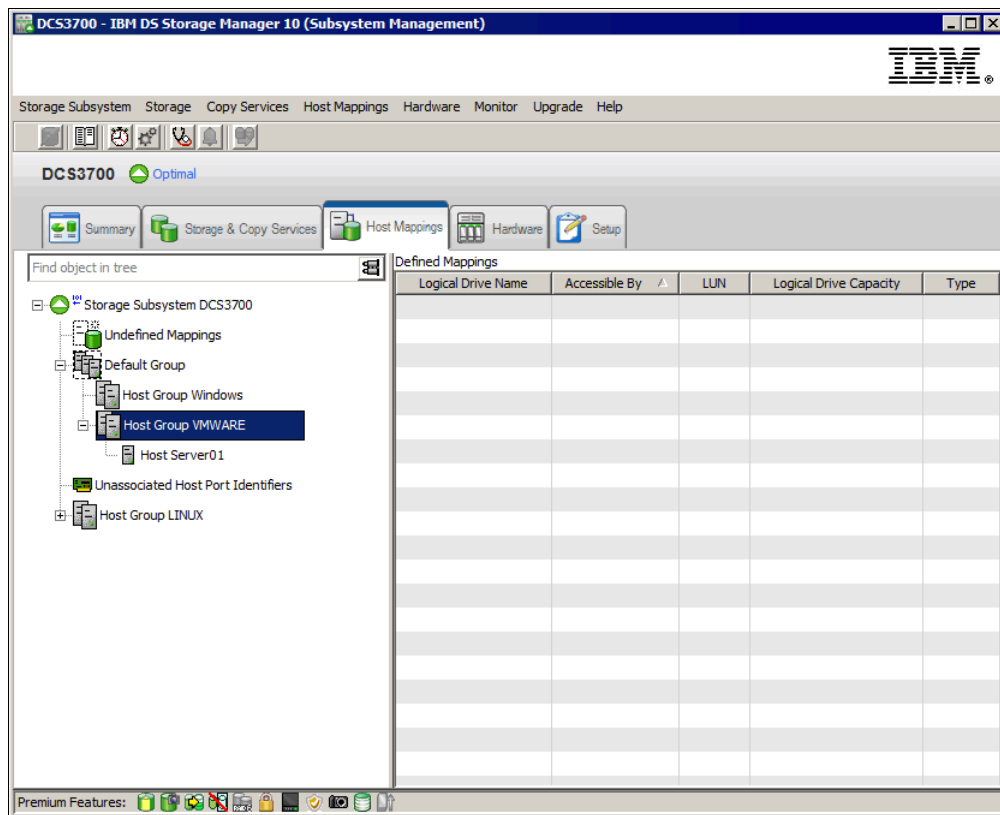

Figure 10-11 Host defined
9. After the process is completed, the new host (and the host group, if it was also defined) is placed in the Default Group in the Topology tree (Figure 10-11). It stays there until you create a storage partition by assigning the logical drives to that host (or host group).